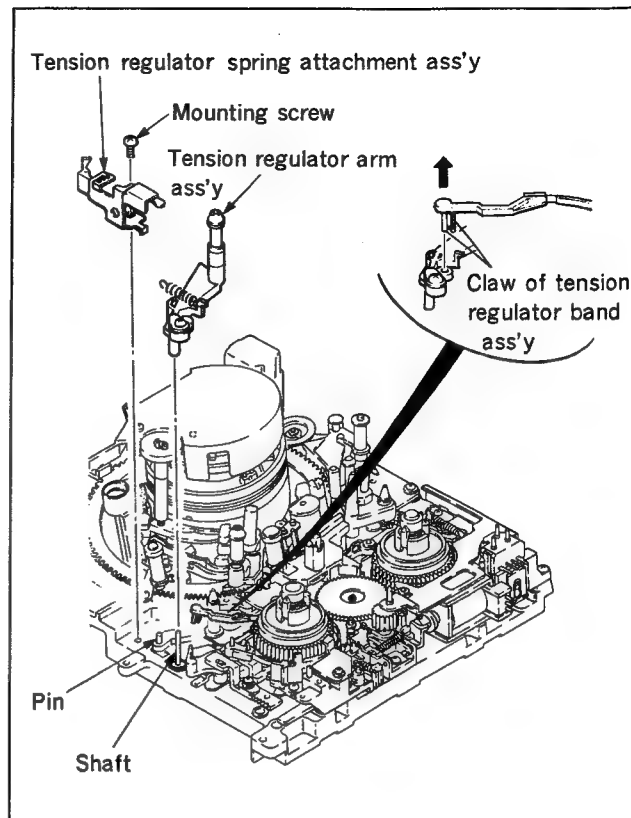

Fig. 4-17-2 Tension regulator arm ass'y replacement
3. Tension regulator spring attachment ass'y removal (Fig. 4-17-2)